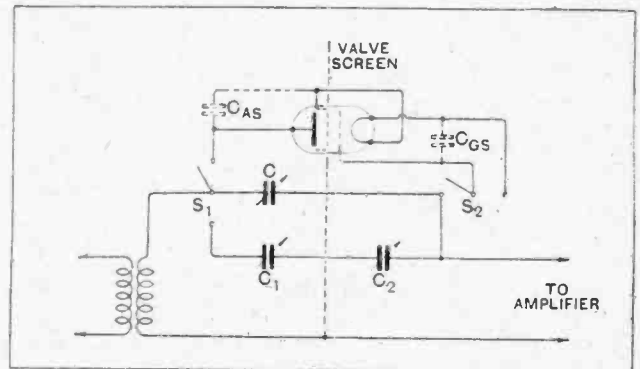

Fig. 3.—The circuit arrangement which was designed to overcome the shunting effect of the anode-to-screen capacity of the screened valve.
This difficulty was overcome by using a small variable condenser  $C_1$ , as shown in Fig. 3, to replace the valve capacity  $C_{as}$ , when the switch  $S_1$  was operated,  $C_1$  being adjusted to balance exactly the effect of  $C_{as}$  on the input voltage. In order to adjust  $C_1$ , however, it was necessary to remove the coupling through the valve to the amplifier when the switch  $S_1$  connects the valve in circuit, otherwise the effect of the capacity coupling through  $C_v$  would be included in the balancing adjust-
**Measuring the Interelectrode Capacity of Screen-grid Valves.**— ment. The coupling capacity  $C_c$  was, therefore, removed by means of switch  $S_2$ , which disconnected the control grid from circuit, a small condenser  $C_2$  being provided to compensate for the removal of the valve capacity  $C_{gs}$ , which is normally in shunt with the input circuit of the amplifier.  $C_2$  can, however, be dispensed with, but a compensating adjustment on the input tuning condenser would then be necessary. It was found more convenient to use a separate condenser as indicated in Fig. 3 for this purpose.